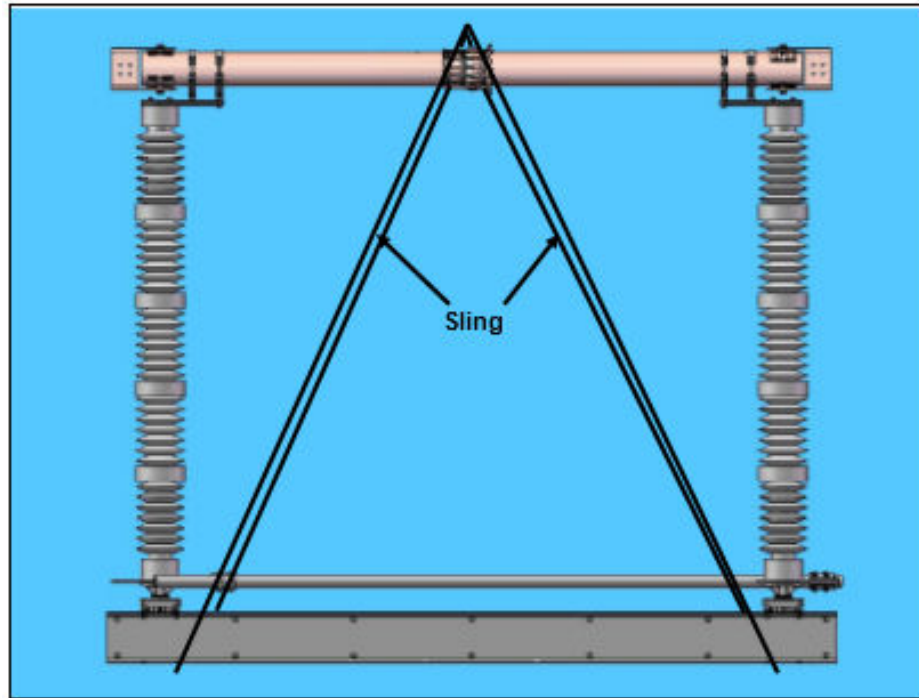

Figure 16: Sling Attachment
4. Lift the assembled switch by the switch base only. Refer to **Figure 16**.
- 1.2. Sling each switch phase and rotate the entire assembly on the structure 180 degrees. Refer to **Figure 16**.